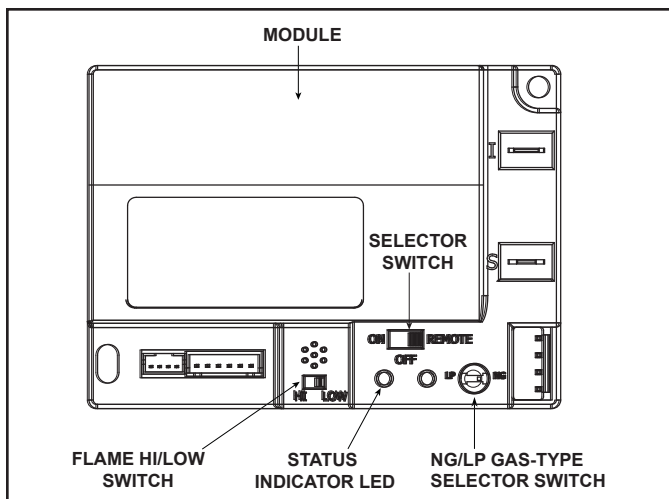

Figure 3.6 Control Module
The NEVO3630I-B/NEVO4236I-B models have a variable burn rate which is controlled by the HI/LO switch on the control module. Therefore the flame height is adjustable. The HI/LO switch is shown in Figure 3.6. It is located in the control cavity of the appliance.
1. The control module has an ON/OFF/REMOTE selector switch that must be set. See Figure 3.6.
2. If using a wired wall switch with the module in REMOTE mode, the flame output can be adjusted with the HI/LO selector switch on the module. See Figure 3.6. Note that the flame HI/LO selector switch will become inactive once an optional remote control (RC200/RC300) is programmed to the control module. Note that the control module will always ignite the fireplace on HI and remain so for the initial 10 seconds of operation. If the HI/LO is switched to the LO position, the flame output will automatically drop to the lowest setting after the flame has been established for 10 sec. After this 10 second period, the flame can be adjusted from HI to LO with the switch.
- Locate the module selector switch. (See Figure 3.6).
- Wait five (5) minutes to allow possible accumulated gas to clear.